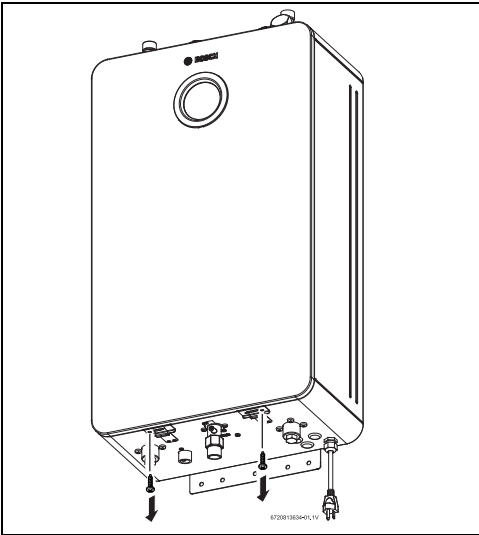

Fig. 3 Loosen two Phillips head screws
- ▶ Loosen two Phillips head screws located on the bottom of the front cover (fig. 3).